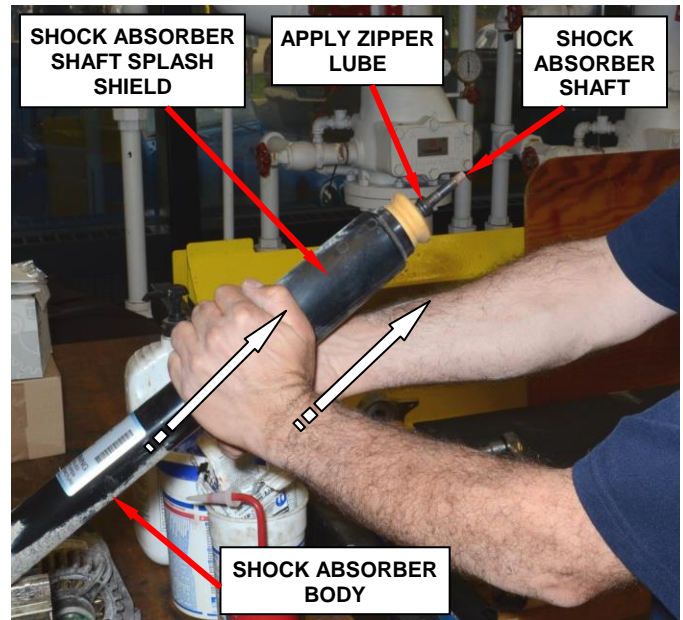

Figure 7 – Remove/Install Splash Shield
e. Apply Mopar Zipper lube to the end of the shock absorber shaft (Figure 7).
f. Remove and save the shock absorber shaft splash shield (Figure 7).